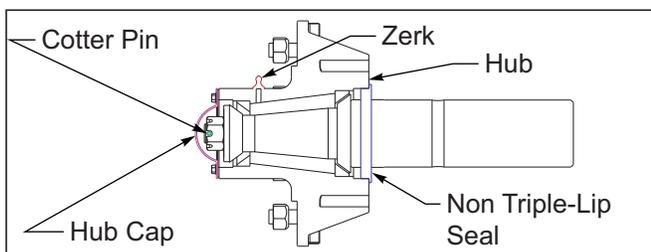

Figure 4-13: Non-Triple Lip Seal
10. Install the cotter pin, dust cap and gasket See Figure 4-13.